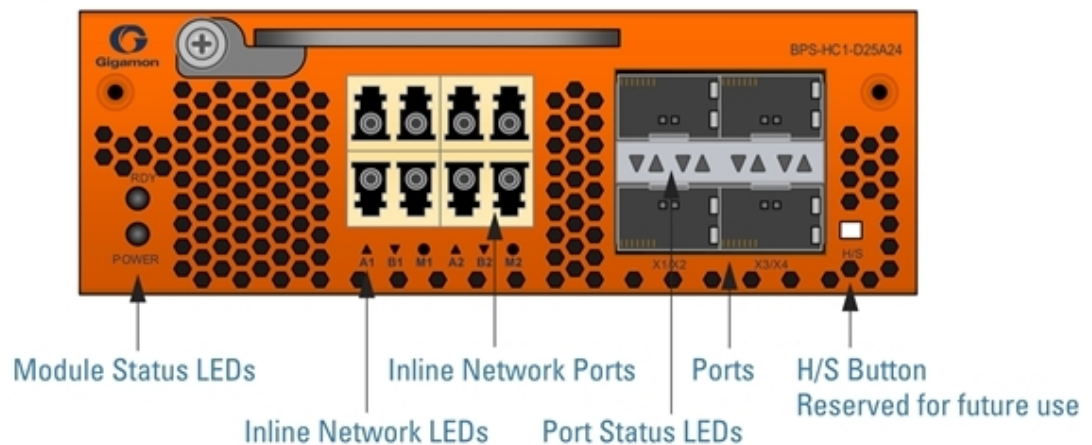

Figure 6 Bypass Combo Module BPS-HC1-D25A24
- Bypass Combo Module with two SX/SR (50/125µm multimode) inline network port pairs and four regular SFP+ port cages (BPS-HCI-D25A24) (Figure 6 Bypass Combo Module BPS-HCI-D25A24)